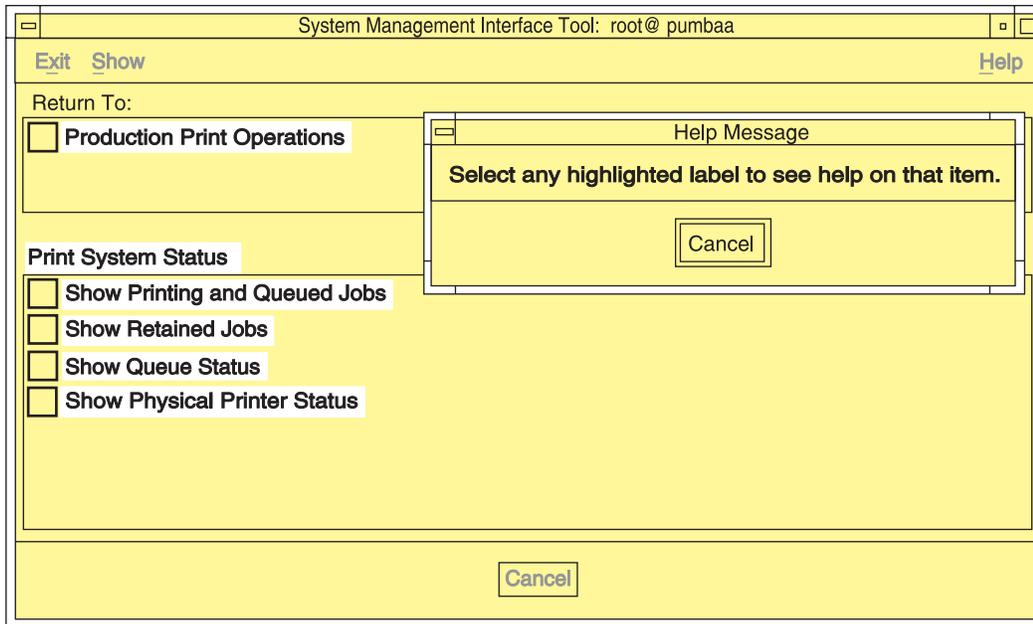

Figure 31. Help for SMIT panel menu selections
1. Press **Ctrl + F1**. All the menu selections on the panel are highlighted. The mouse pointer changes to a question mark. A **Help Message** window opens with instructions on how to access help. Figure 31 on page 160 shows an example of the results of pressing **Ctrl + F1** for a SMIT panel.